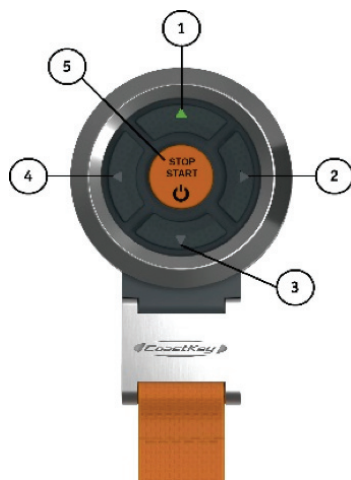

Figure 3: Master FOB
i The **Master FOB** is equipped with a key lock feature to prevent unintended activation of the AUX functions. The key lock is deactivated by pressing and holding the right and left arrow keys (fig. 3, 2 and 4) for 2 seconds.
CoastKey will automatically work as a Kill Switch if the **Master FOB** is used to turn the ignition on. If you choose to start the engine(s) from the **Start Panel**, you must activate the Kill Switch function by pressing and releasing the center button on the **Master FOB** (Figure 3, 5).
When the engine(s) are started, if the **Start Panel** is beeping and has a flashing yellow LED, this indicates that the Kill Switch function is NOT in use. The beep will be active for 2 minutes (to correct this, press and release the center button on the **Master FOB** (Figure 3, 5).
1.	Press and hold the center button (fig. 3, 5).
1.	Press and hold the center button (fig. 3, 5) for 2 seconds.
1.	Press and release the center button (fig. 3, 5).
1.	Press and hold the right and left arrow keys simultaneously (fig. 3, 2 and 4) for 2 seconds to deactivate the key lock.
2.	Press and hold the arrow key (fig. 3, 1 - 4) for the desired connected function.